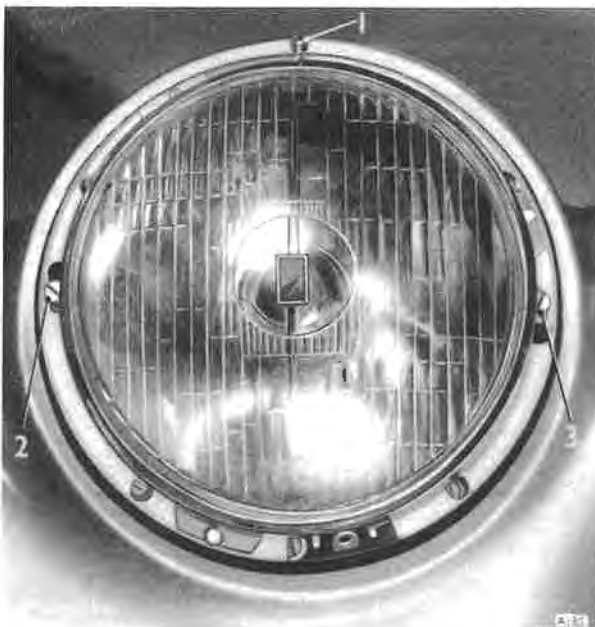

Fig. M41 Headlamp beam adjustment
Vertical adjustment of the headlamp beam is by means of the single screw (1) shown in Figure M41. Roadside adjustment of the vertical setting by the driver may be necessary to compensate for variation of load. This adjustment can be carried out with the rim in position.
Horizontal adjustment of the beam is by means of two spring-loaded screws (2 and 3. Fig. M41). This adjustment can only be carried out with the headlamp rim removed.